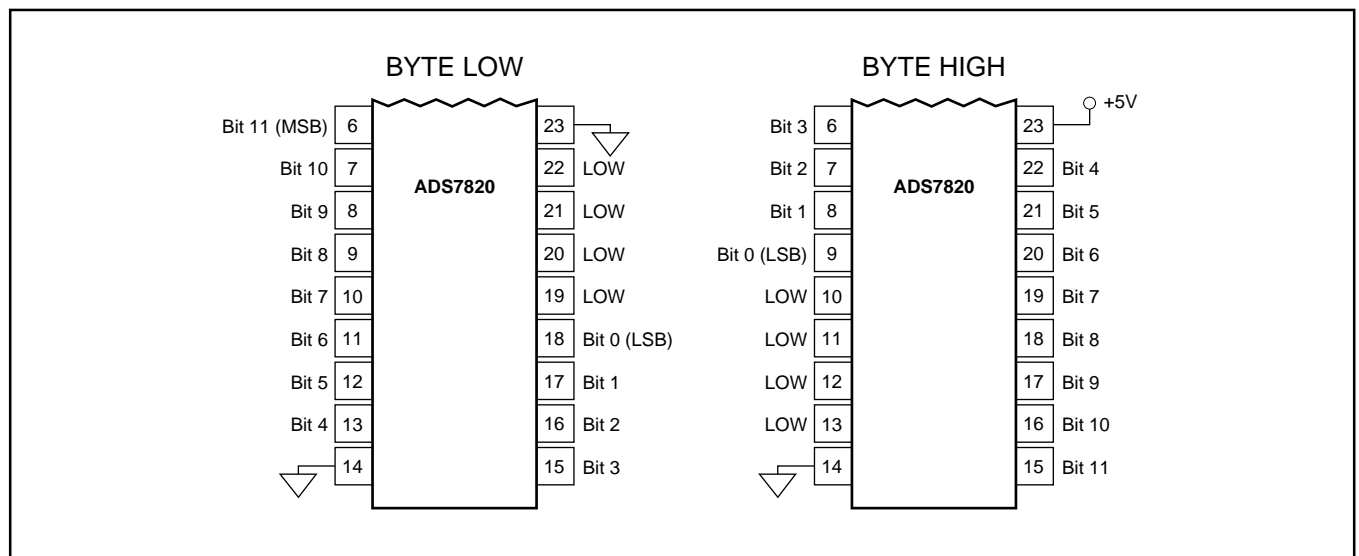

FIGURE 2. Bit Locations Relative to State of BYTE (pin 23).
NOTE: (1) See Figures 2 and 3 for constraints on data valid from conversion "n-1".
The ADS7820 outputs full or byte-reading parallel data in Straight Binary data output format. The parallel output will be active when $\overline{R/C}$ (pin 24) is HIGH and \overline{CS} (pin 25) is LOW. Any other combination of \overline{CS} and $\overline{R/C}$ will tri-state the parallel output. Valid conversion data can be read in a full parallel, 12-bit word or two 8-bit bytes on pins 6-13 and pins 15-22. BYTE (pin 23) can be toggled to read both bytes within one conversion cycle. Refer to Table II for ideal output codes and Figure 2 for bit locations relative to the state of BYTE.